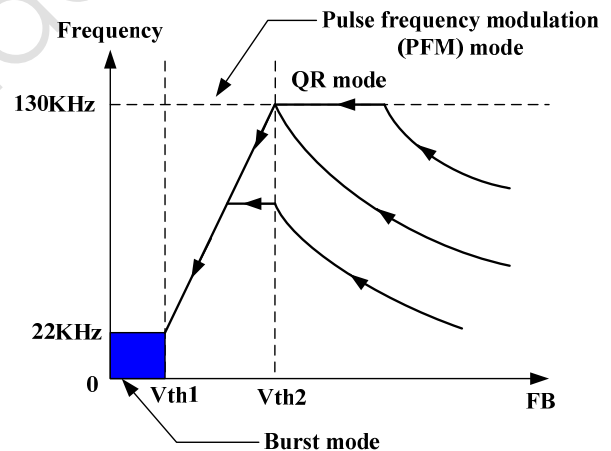

Figure 1
■ Under normal operating conditions ($FB > V_{th2}$, Figure 1), the system operates in QR mode. The frequency varies depending on the line voltage and the load conditions. Therefore, the system may actually work in DCM when 130KHz frequency clamping is reached. System design should be optimized such that the operation frequency is within the range specified at full load conditions and in universal AC line input range.
■ At light load condition ($V_{th1} < V_{FB} < V_{th2}$, Figure 1), the system operates in PFM (pulse frequency modulation) mode for high power conversion efficiency. In PFM mode, the “ON” time in a switching cycle is fixed and the system modulates the frequency according to the load conditions. Generally, in flyback converter, the decreasing of load results in voltage level decreasing at FB pin. The controller monitors the voltage level at FB and